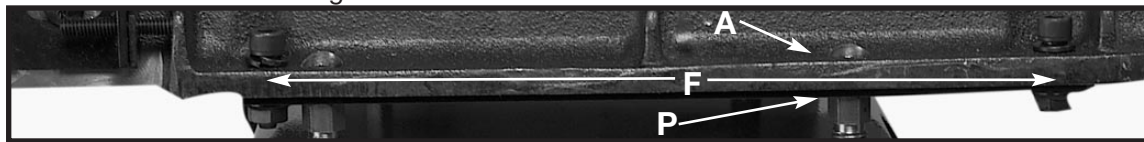

Fig. 6D
3. Fasten the table assembly (A) to the support plate (P) with four 5/16" socket head screws with lock washers through the holes (D), and secure with flange nuts, two of which are shown in (F) Fig. 6D. Tighten securely.